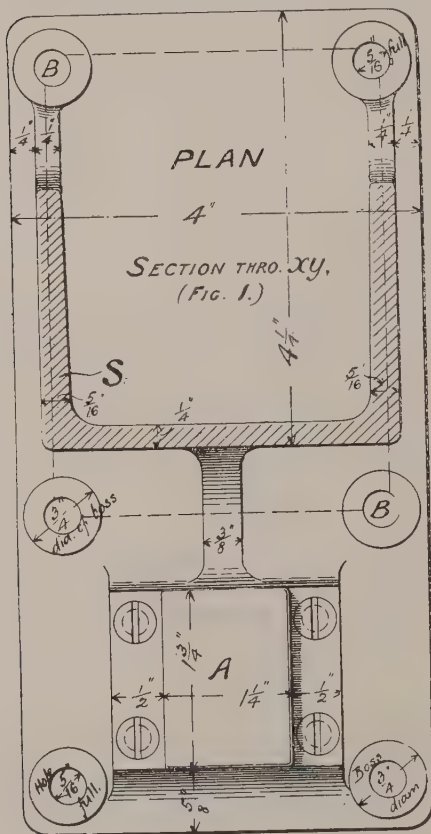
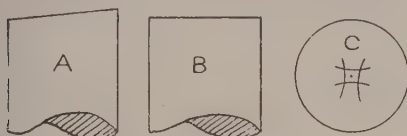
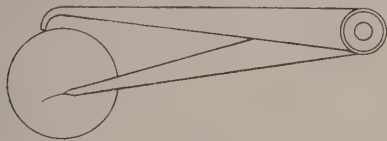

Fig. 3
FIG. 1.
FIG. 2.
dard (S) with anvil, and the cylinder (C) with its slide-valve and piston. Taking the standard first, it is complete in one casting, the anvil being faced with a steel top to prevent undue wear. This casting (which is of iron) certainly presents the most formidable difficulty to the amateur maker, although comparatively simple to mould. There is no great amount of machining or filing to be done to the rough casting, the principal places being the cylinder bearing surfaces, the slide-bar surfaces, and the anvil-top (A). On all these surfaces sufficient metal (from 1-16th in. to 1-8th in.) must be left for working upon, and such places as the bosses for holding down bolts (B, B) should be cast a little thick to allow for "cleaning up." The under surface of the whole standard should, of course, be planed if possible, a good bearing being important to stand the blows of the hammer. Two lugs will be seen at L, L, one on each side of a hole cored in the casting. These lugs carry the fulcrum-pin for the working lever. They have to be drilled with holes 3-16th in. full diameter, and as it would be impossible to do this owing to their position between the sides of the standard, the drill has first to go through one of these sides, as shown at *k* (Figs. 2 and 4). The dotted lines shown in the base in Figs. 1 and 3 indicate a recess $\frac{1}{4}$ in. deep made under the standard, in order to minimise the amount of labour required to machine the bottom. Obviously this recess could not be allowed under the anvil, where a firm bearing is essential. A departure from the real design is made in having in one casting the anvil and hammer standard, but the present design is of ample strength to guard against any danger of breakage on this account. The main portion of the standard, as will be seen by reference to Fig. 3, is of a section forming three sides of a square. The two wings and the front are all $\frac{1}{4}$ in. thick, the sides being a little thicker towards their junction with the front to make the moulding easier.
The slide-valve in the model is of the ordinary steam-engine type, instead of that usually in use on steam-hammers, which would require too complicated a casting. The valve is worked by the valve-rod (*r*, Fig. 1), and working lever (W), which latter has a slot in the valve-rod end to allow sufficient play for the valve-rod pin.
I will imagine the reader about to centre a round piece of metal which has just been cut off a long bar. The first thing is to file both ends practically square, as at B in Fig. 1; on no account should they be left as at A. Then fix the job end up in the vice, and rub the top end over with a piece of chalk. Take a pair of "hermaphrodite" or "odd-leg" calipers, as they are usually called, and open them to approximately half the diameter of the
rod to be centred. Then from four sides mark curved lines round the centre of the work, as shown in Fig. 1, keeping the end of the curved caliper leg in close contact with the circumference of the work while each line is being marked as shown in Fig. 2. The small space enclosed by the lines thus drawn will be the correct place